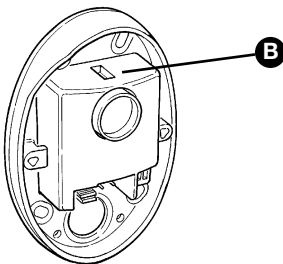

Figure 69
**2** If the system is equipped with the PH1 photocells, make sure that the SAFE LED **[B]** shown in figure 69 flashes (on both TX and RX). The type of flashing is irrelevant, it depends on other factors; what matters is that it is not always off or always on.